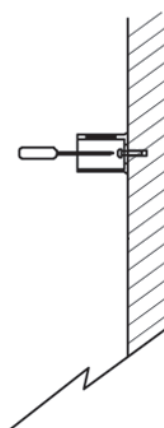

FIG. 4
6. Insert part B in to part A of the wall bracket and adjust and fix to required distance from the wall using the M5 bolt supplied (see FIG. 4).